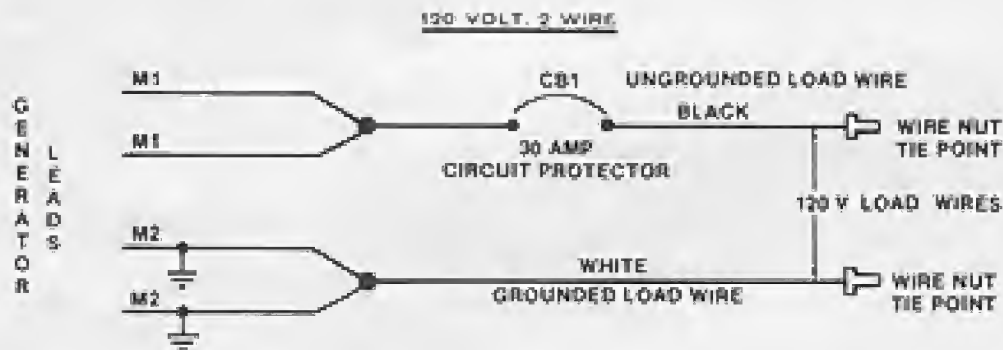

FIGURE 4. SINGLE-PHASE, "1R" VOLTAGE CODE GENERATOR CONNECTIONS
1. Generator set load wires M1, and M2 terminate within the junction box. Connect and join wires within junction box in an approved manner for desired voltage code. See Figure 4.